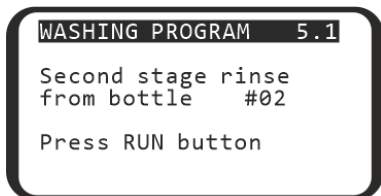

Figure 12. Second bottle confirmation
5.8.3 If the operation requires washing on two channels (parameter **On two channels** set to **YES**), then after starting the program, unit requests the confirmation of the correct bottle number for second wash (figure 12). Select the necessary bottle number using **+** and **-** keys and press the **Run/Stop** key.